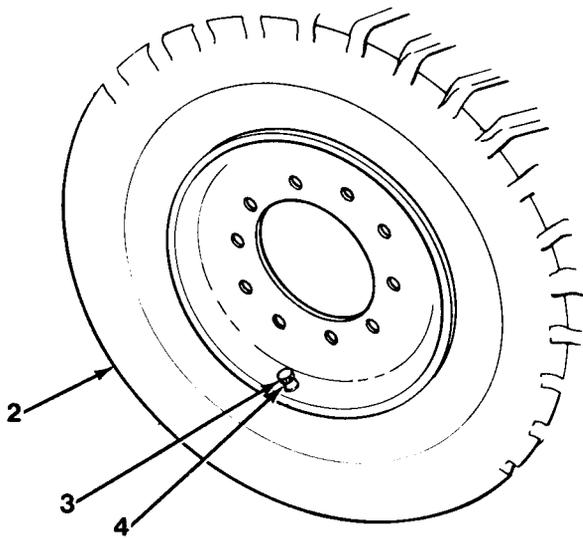

Figure 12-3
1. Remove valve stem cap (3) and completely deflate tire (2, Figure 12-3).
2. Demount deflated tire (2) from wheel using tire irons or remounting machine.
3. Remove and discard valve stem (4).